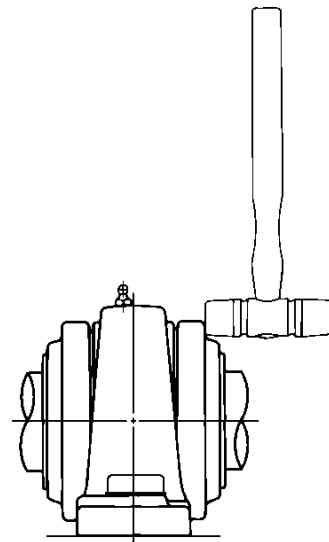

Fig. 5.3: Attaching pressed steel covers
- 5) For pressed steel covers, attach it by tapping the side of the circumference with a wood hammer or plastic hammer as shown in Fig. 5.3.